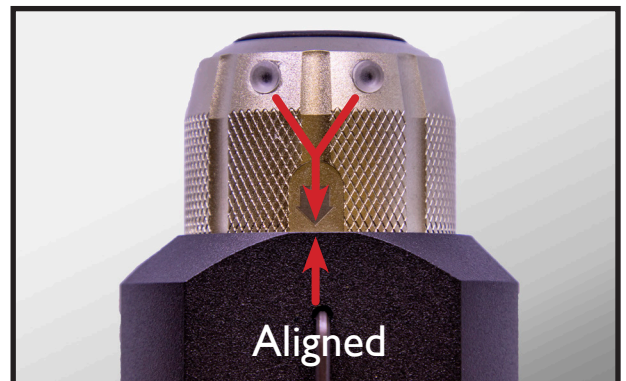

Figure 6: *Proper Cap Installation with no Gap between Cap and Padlock*
- 16) Verify that the cap is locked in place by the internal latch and can't be unscrewed. The Allen wrench should be aligned with the center of the home mark. Note Figure 6 for proper cap installation without a gap between the cap and padlock body.